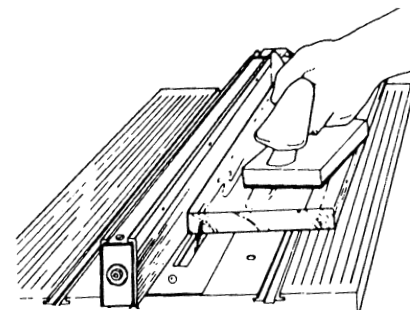
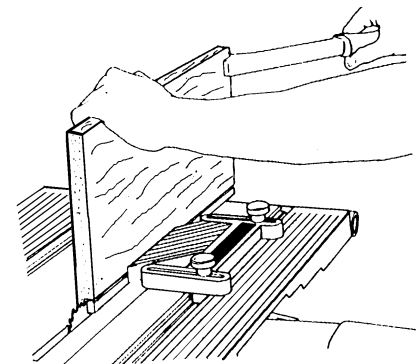

Figure C-15
Figure C-16
2. Rabbet cuts require two passes. Cut the surface of the stock first. See Figure C-15. Then reposition the fence if necessary and turn the stock on edge. Make the second cut so that the waste is on the opposite side of the blade from the rip fence. Use a fence extension or feather board to support the stock. See Figure C-16.